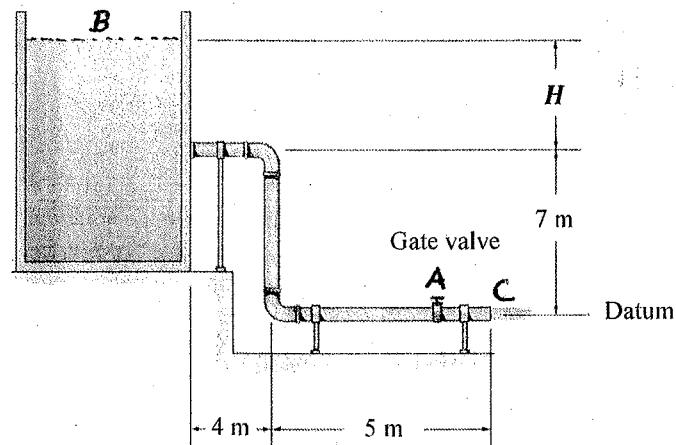

Figure Q3
- (ii) As shown in **Figure Q3**, water is taken from a large tank (B) using a galvanized iron pipe and is discharged at point 'C'. When the gate valve 'A' is fully opened, it is required to maintain a $0.5 \text{ m}^3/\text{s}$ discharge at point 'C' at the *initial steady flow conditions* (i.e. water level in the tank does not change). Determine the **initial water height (H) need to be maintained above the centerline of the outlet pipe** (see **Figure Q3**). Assume the water is incompressible and the velocity of the water level in the tank $V_B \approx 0$. The pipe diameter is 300 mm and is constant along the whole length.